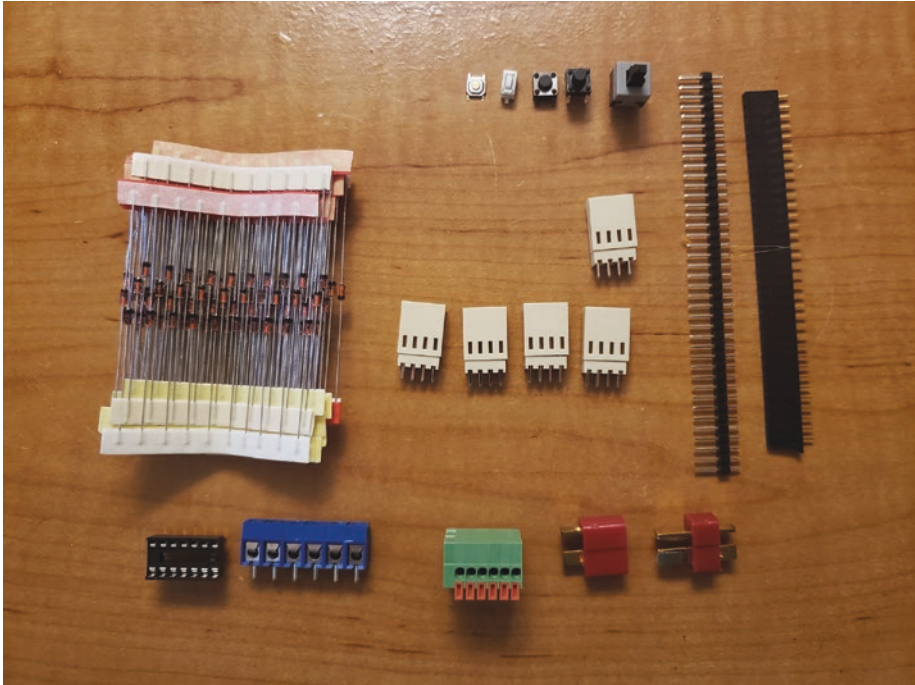

Figure 1-7. *Miscellaneous pieces of hardware (various terminal blocks/connectors, diodes, headers, push buttons)*
- **Miscellaneous:** These are the most common components, such as resistors, capacitors, LEDs, diodes, headers, push buttons, and transistors. You can buy many kits that will supply you for a while on all this hardware at a low cost (see Figure 1-7).